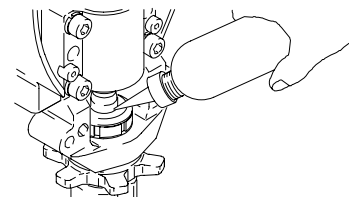

Fig. 21
4. Fig. 21. Fill packing nut with Graco TSL, through the slit, until fluid flows onto the top of seal.